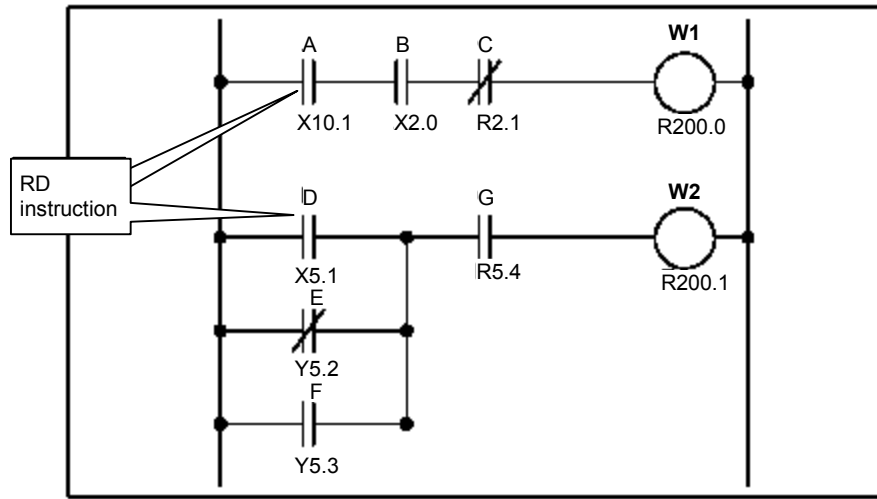

Fig. 4.1.2
- (1) Use this instruction to start coding from contact A (-| |-). For examples of how the RD instruction is used, see the ladder diagram shown in Fig. 4.1.2 and the input example in the mnemonic format given in Table 4.1.2.
- (2) The instruction reads the status (0 or 1) of the signal at the specified address and sets it in the ST0 bit.